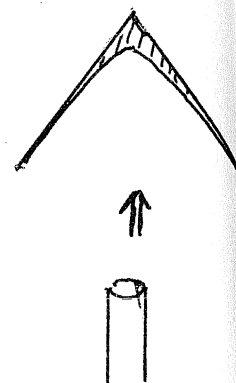

FIGURE 3
3) A student measures the force exerted by a jet of water on a conical target. The student uses the arrangement shown in Figure 3, where the target is directly above the jet. The student derives the theoretical equation for the force as $F = \rho \frac{Q^2}{A} (1 - \cos \theta)$, where F is the force, ρ the density of water, Q the discharge of the jet and A the cross-sectional area of the jet.